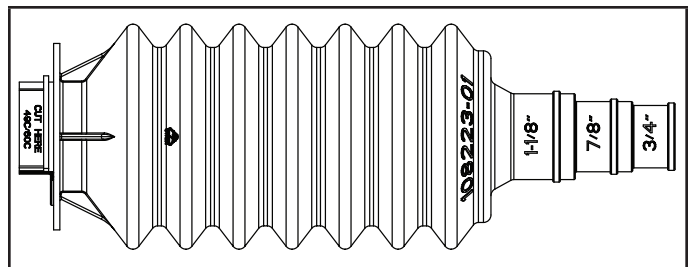

FIGURE 4. Line Set Joint Sleeve
- 2 - Determine the refrigerant suction line size. For suction lines of 7/8" or 1-1/8", trim the smaller end of the larger line set joint sleeve accordingly to accommodate the refrigerant piping (see figure 4).
NOTE – For sizes 49C and 60C, cut off marked section on line set joint sleeve (see figure 4)